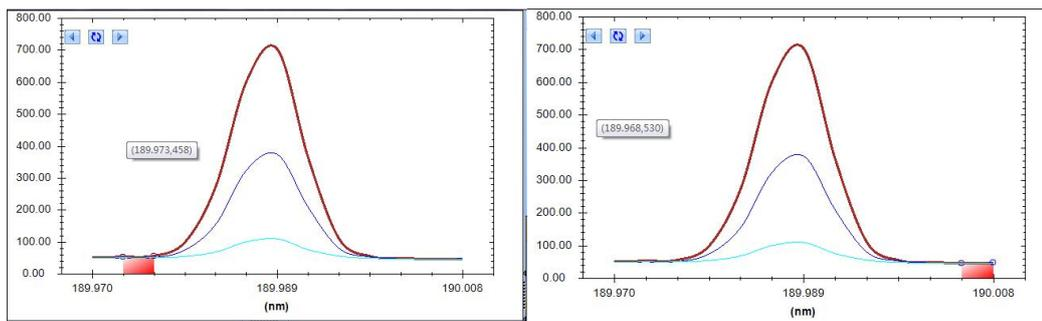

Fig.6.27
2. Right Background: Check *Right BG*, move the cursor on the spectrum, left-click (click repeatedly is allowed) at the right position to setup the right background(Figure 6.27);